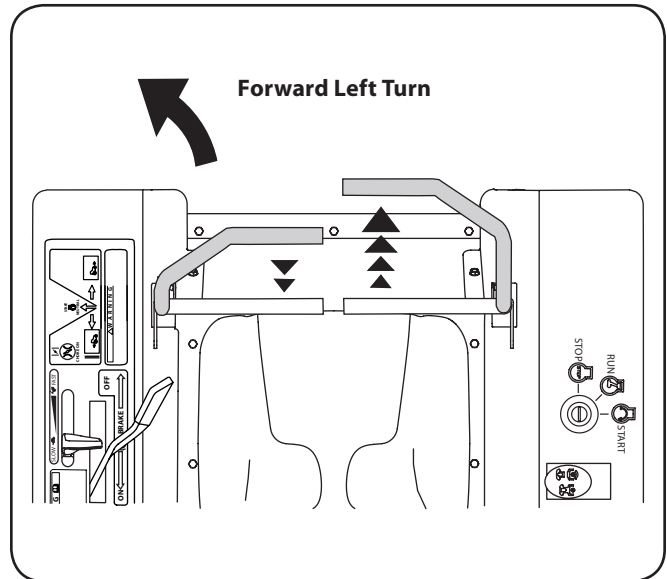

Figure 1-3
1. To turn to the left, move the left drive control lever rearward of the right lever. See Figure 1-3.